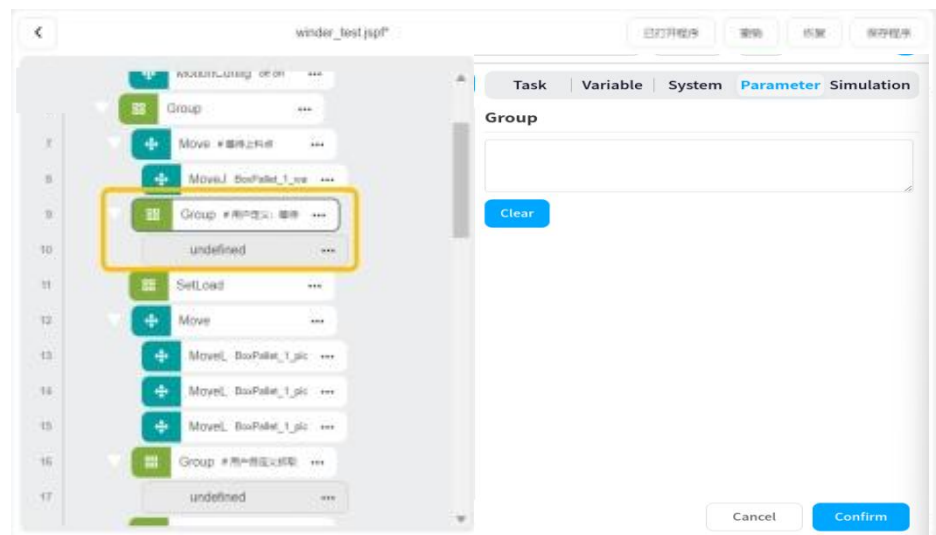

Figure 39
2、 Set the “Group waiting signal” module, as shown in Figure 39.